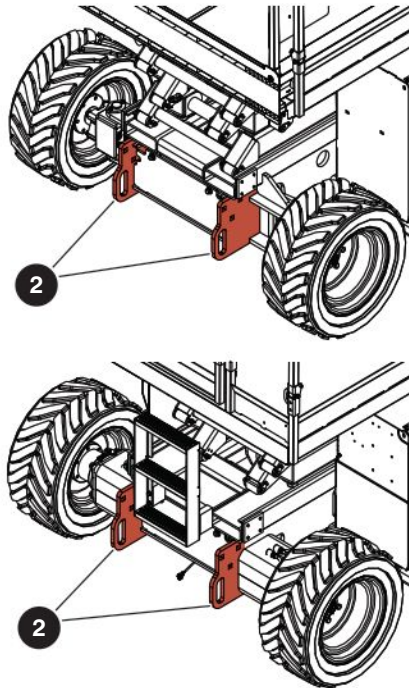

Figure 05 Tie-downs/lift points
- Attach the rigging to all **four lift points ①**. Refer to Figure 05.
When you transport the MEWP, it must be attached to a truck or trailer deck. Use the available tie-down points ② to attach the MEWP. Refer to Figure 05. If you do not obey, there is a risk of death or serious injury.
- Tie-down the MEWP to the transport vehicle using the **tie-down points** ②. Refer to Figure 05.